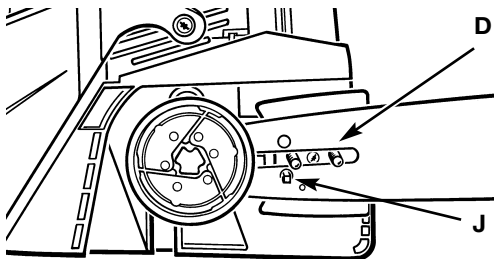

Fig. 23
3. Slide bar off the two bar bolts and remove chain (Fig. 23).
3. Place the slotted end of the guide bar over the two bar bolts (D, Fig. 23). Be sure adjusting tang (J, Fig. 23) is in lower adjusting hole of the bar.